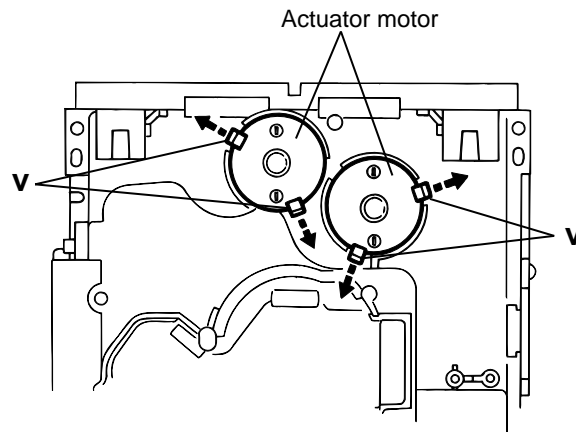

Fig.20
3. From the notch "u section" on the chassis assembly fixing the edge of gear bracket, remove and take out the gear bracket(See Fig. 20).